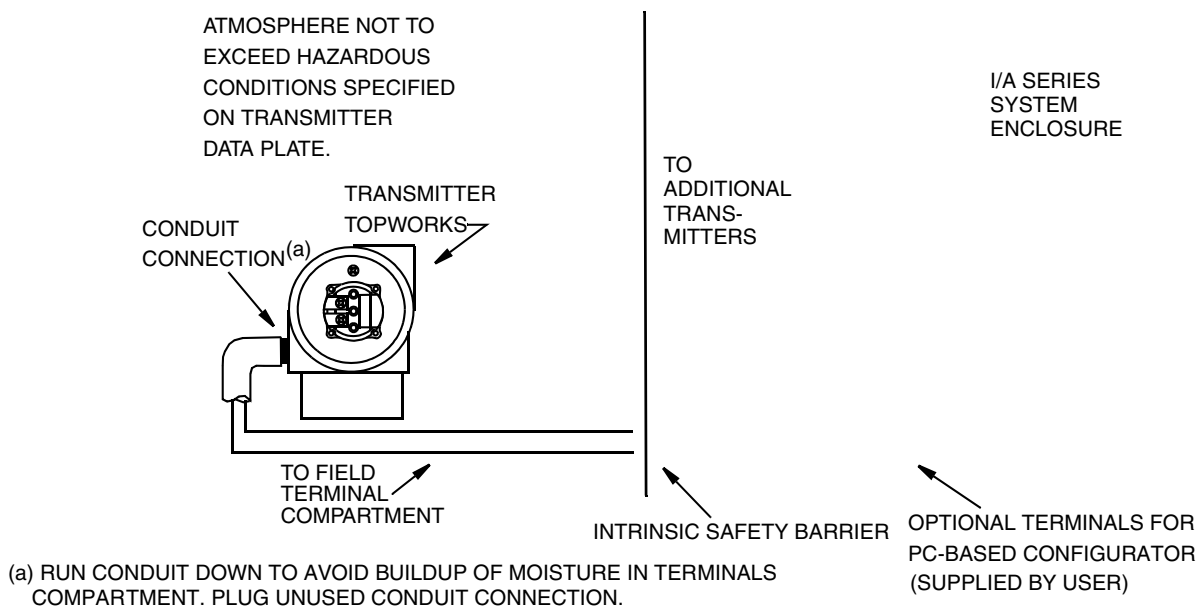

Figure 16. Typical Transmitter Wiring to an I/A Series System
2. Run signal wires (0.50 mm² or 20 AWG, typical) through one of the transmitter conduit connections as shown in Figure 16. Use twisted pair to protect the digital output and/or remote communications from electrical noise. Screened (shielded) cable may be required in some locations.